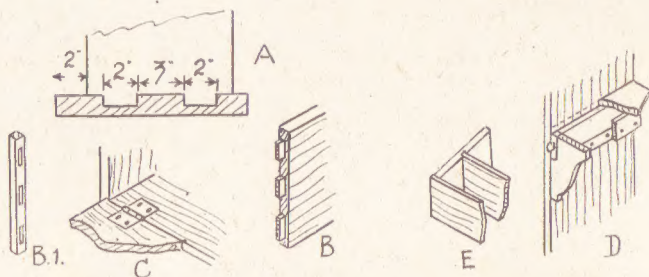

Fig. 2—Details of various joints, hinging, etc., in construction
Cut the two feet from 1in. by  $1\frac{1}{2}$ in. wood. The bottom ends of the sides will be cut to form two tenons, as in detail (A) Fig. 2, each 2ins. long and separated 3ins. apart. Make the tenons